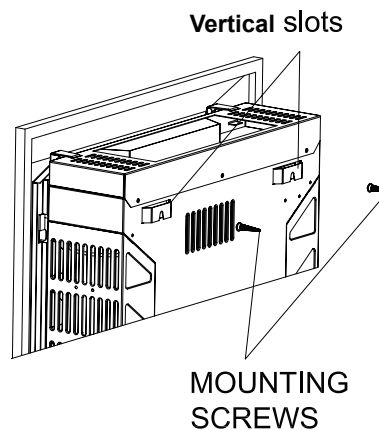

Figure 10 - Mounting Heater Onto Mounting Screws
1. Locate two horizontal slots on back panel of heater (see figure 10)